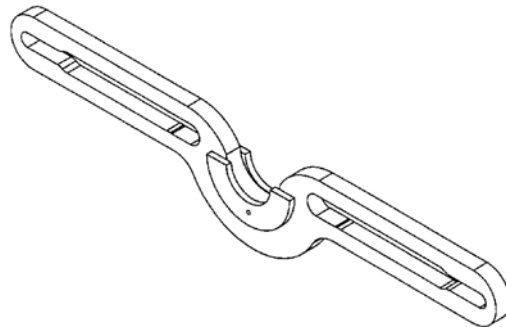

FIGURE 7-5: PISTON ROD SUPPORT (G-8325)
- Piston Rod Support for Installing Piston and Rod Assembly (G-8325). See Figure 7-5: on Page 7-4.